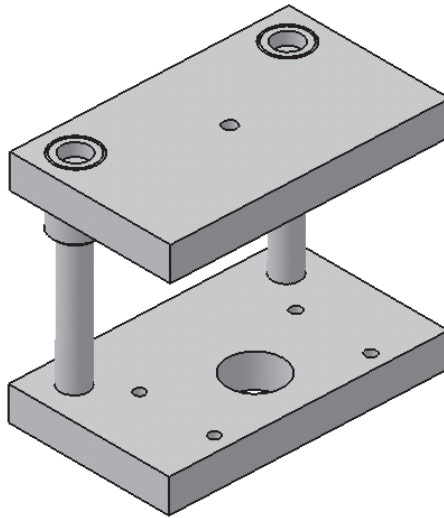
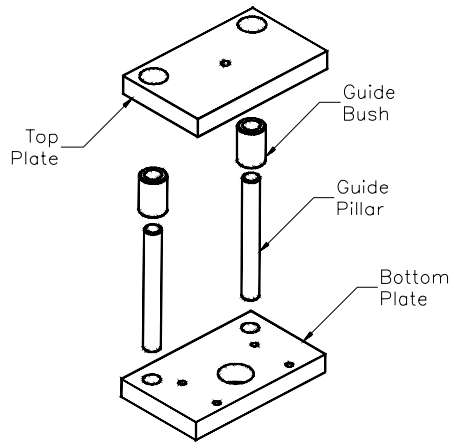
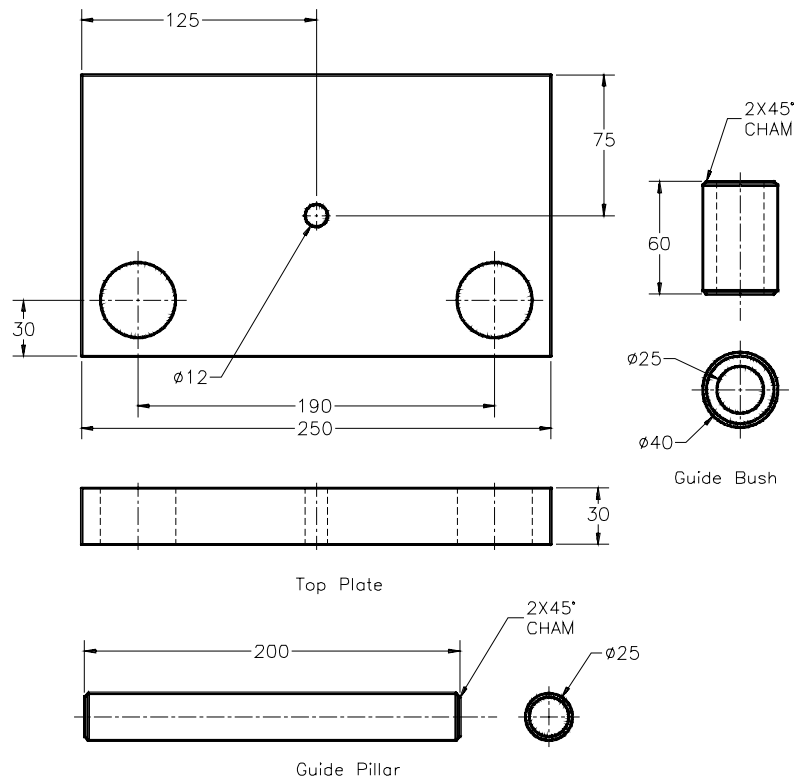

Figure 11-80 The Press Tool Base assembly
Figure 11-81 The exploded state of the Press Tool Base assembly
Figure 11-82 Views and dimensions of the Top Plate, Guide Pillar, and Guide Bush
In this tutorial, you will create some components of the Press Tool Base assembly using the top-down assembly approach. The Press Tool Base assembly is shown in Figure 11-80. The exploded state of this assembly is shown in the Figure 11-81. The dimensions of all components are shown in Figures 11-82 and 11-83. The drawing of the complete assembly is shown in Figure 11-80. **(Expected time: 45 min)**
6. Exit the **Sketcher** workbench and extrude the sketch, refer to Figure 11-82 for dimensions.
It is evident from Figure 11-80, that the Guide Bush will be placed over the Guide Pillar. Therefore, the geometry of the Guide Pillar will be used to create the Guide Bush.